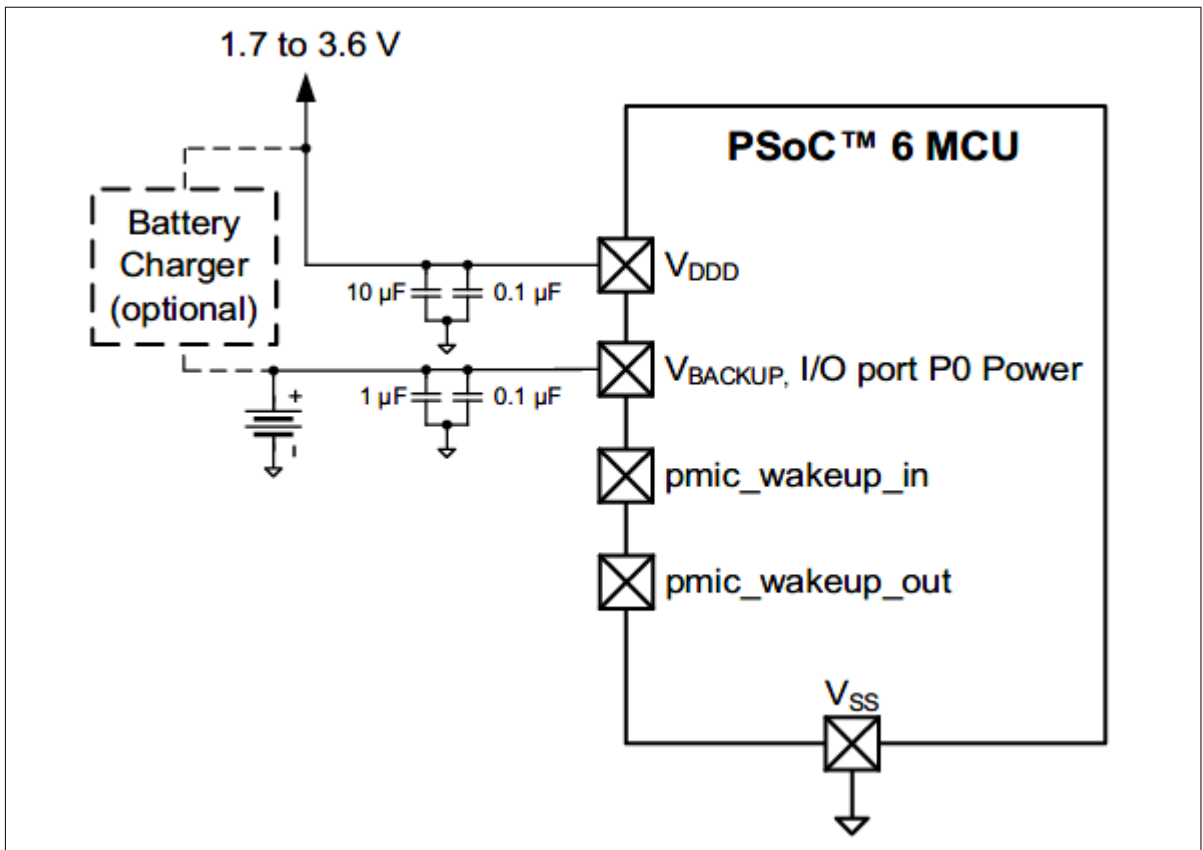

Figure 15 Backup domain battery connection
3. **V_{BACKUP} powered by battery** – Figure 15 demonstrates a battery-powered V_{BACKUP}. When a battery supplies V_{BACKUP}, it is important to NOT use the supercapacitor charge circuit because it provides no battery safety mechanisms. If the battery is rechargeable, an external board-level recharge circuit can be provided for the battery-specific charge requirements